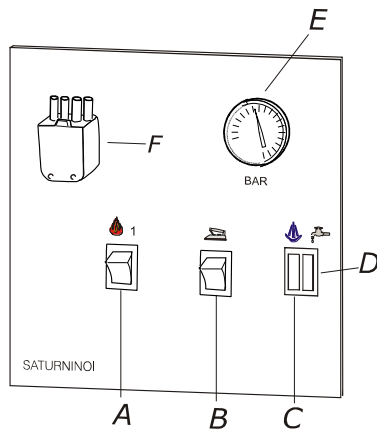
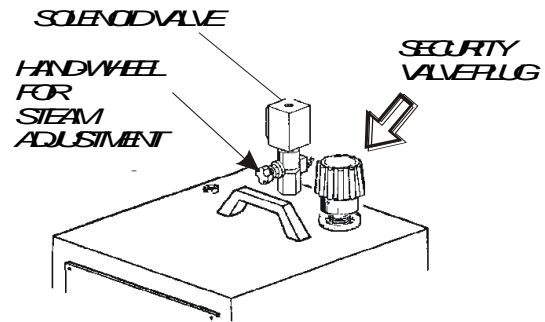
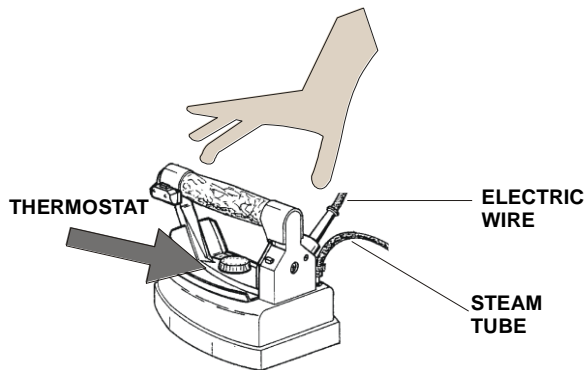
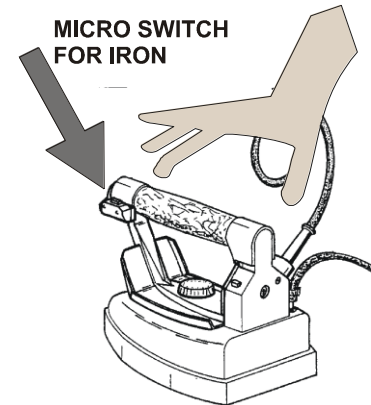

Fig. 2
Fig. 3
Fig. 5
Fig. 6
5. Check that the iron plug is connected to the socket (fig. 2 F)
- Switch on heating element (fig. 2 A). Five minutes later switch on the iron (fig. 2 B) and adjust the thermostat (fig. 5) on "cotton".
- Wait for the boiler lamp to switch off (fig. 2 C). Seize the iron by cork handle and press red button 3 or 4 times (fig. 6), so that steam comes out. It is important to make sure it is a saturated steam (by pressing the micro switch with the iron pointed downwards). You can adjust steam flux by turning the hand-wheel placed on the solenoid valve (fig. 3). Now everything is ready for ironing. During ironing operation, the boiler lamp switches on and off (fig. 2 C).
- Empty the boiler only when the pressure does not overcome 0 BAR (fig. 2 E), taking care to open the exhaust tap slowly (fig. 3). For carrying out this operation, wear gauntlets against possible burns.
- Never replace the security valve plug (fig. 3) with other types of plug. N.B. the security valve plug is set on 4,5 BAR and it has the function of a security valve.**
- Run the iron on garments, pressing the iron micro switch for steam. For a better result, set the thermostat (fig. 5) on "cotton".
- For dry ironing it is possible to adjust the thermostat (fig. 5) on different positions according to the type of fabric (look at garment label). For steam ironing, set the thermostat on "cotton" or "flax".
- If you work on a non-vacuum board, some circular water spots might form because of condensed steam. To get round this problem, put a felt under the usual padding and adjust the hand-wheel for steam regulation on minimum (fig. 3).
When the water in the boiler is over, the lamp "no water" switches on (fig. 2 D). So SATURNINO has to be switched off by disconnecting the plug; rotate the valve plug (fig. 3) of 360° and wait for steam to go out completely. Unscrew the valve plug with care and wait a few minutes. Then fill the boiler with water. Screw the valve plug again, connect the plug and wait for the boiler lamp to switch off (fig. 2 C). Now the iron is ready again.
2. Replace the security valve plug every 2500 hrs. of ironing or maximum 3 years (fig. 3).
3. steam tube and iron cable once they seem spoilt (fig. 5).